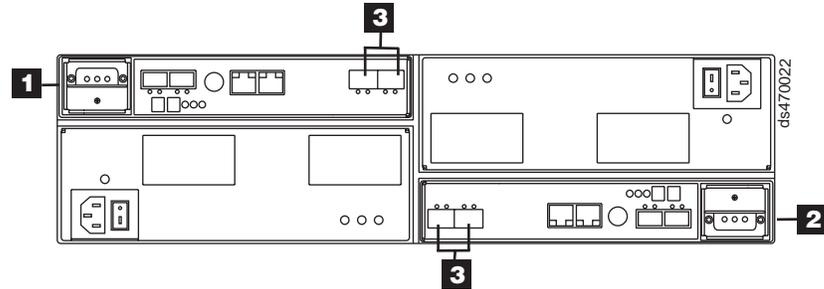

Figure 54. Location of host cables on RAID controllers on the DS4200 Express
2. Connect the fibre channel cables from the SFP modules in the DS4200 Express RAID controller host ports to either the SFP modules in the fibre channel switch or the SFP modules of the host bus adapters. Figure 54 shows the location on the RAID controllers on the DS4200 Express Storage Subsystem where the host-system cables connect.